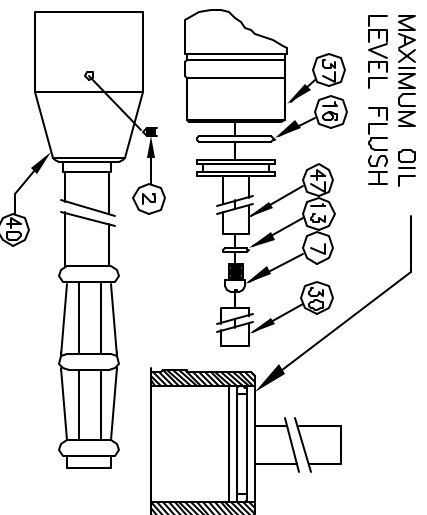

FIGURE 8
5. Grasp the stem of plunger 47 and lift it so the plunger is no higher than the oil reservoir section of the body 37 (see Figure 8).
REPLACING OIL PLUNGER O-RING: (SEE FIGURE 8)
7. Apply slight pressure to plunger 47 (see Figure 8) to allow the oil to just reach the surface of the fill hole, then replace the filler screw 7 and O-ring 13.
NOTE: Tool may be flushed to some degree by rotating the advance handle or pushing down on plunger 47 (see Figure 8) to force oil through the inlet passages, thus forcing any material out of the tool.